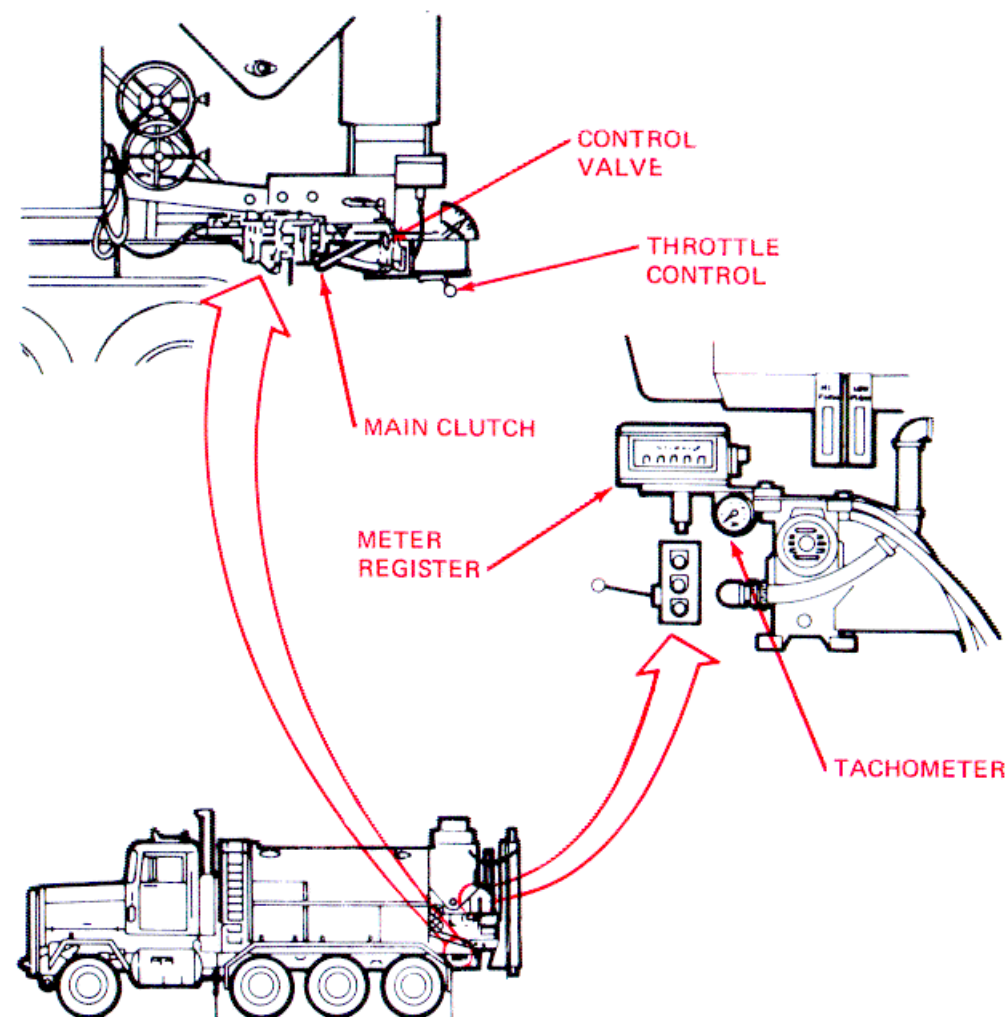

Figure 3-18. Operating Controls.
- (4) Adjust the throttle until the tachometer reads 1620-1720 rpm (fig. 3-18). Open the control valve. Engage the main clutch.